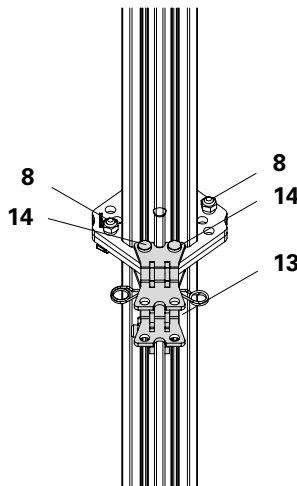

Fig. A5.01a
1. Remove both Bolts (14) from the Brace Connector MPR (13).
3. Fasten with both Bolts and secure with Cotter Pins (14). (Fig. A5.01a)